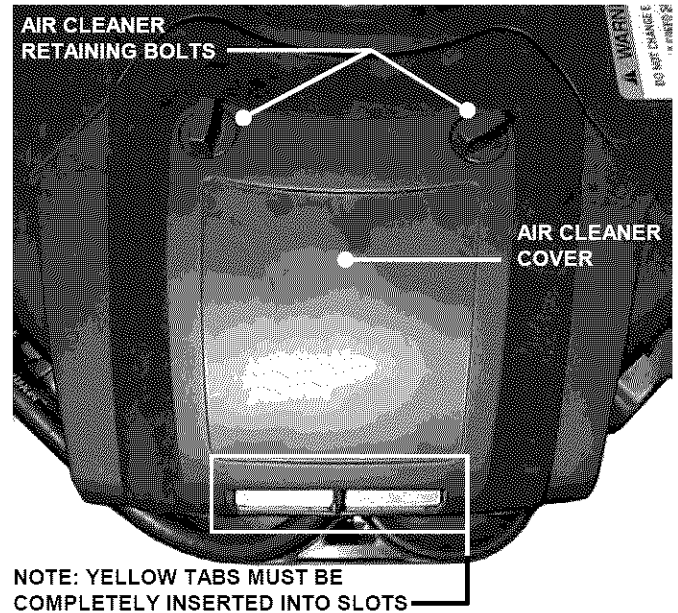

FIGURE 3.4
- 20 Hp Engines:** Change air filter. Remove bolts that secure air cleaner cover. See Figure 3.4.
a. **16 HP Engines:** Change air filter. Pull up and rotate the air cleaner latch to remove cleaner cover. See Figure 3.4.